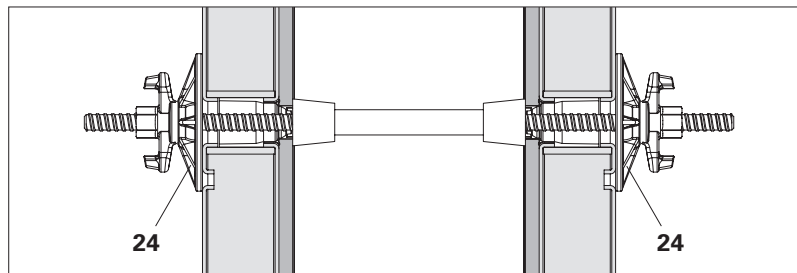

Fig. A7.02
- Variant 2 with Wingnut Pivot Plate DW20 ga (24). (Fig. A7.02)